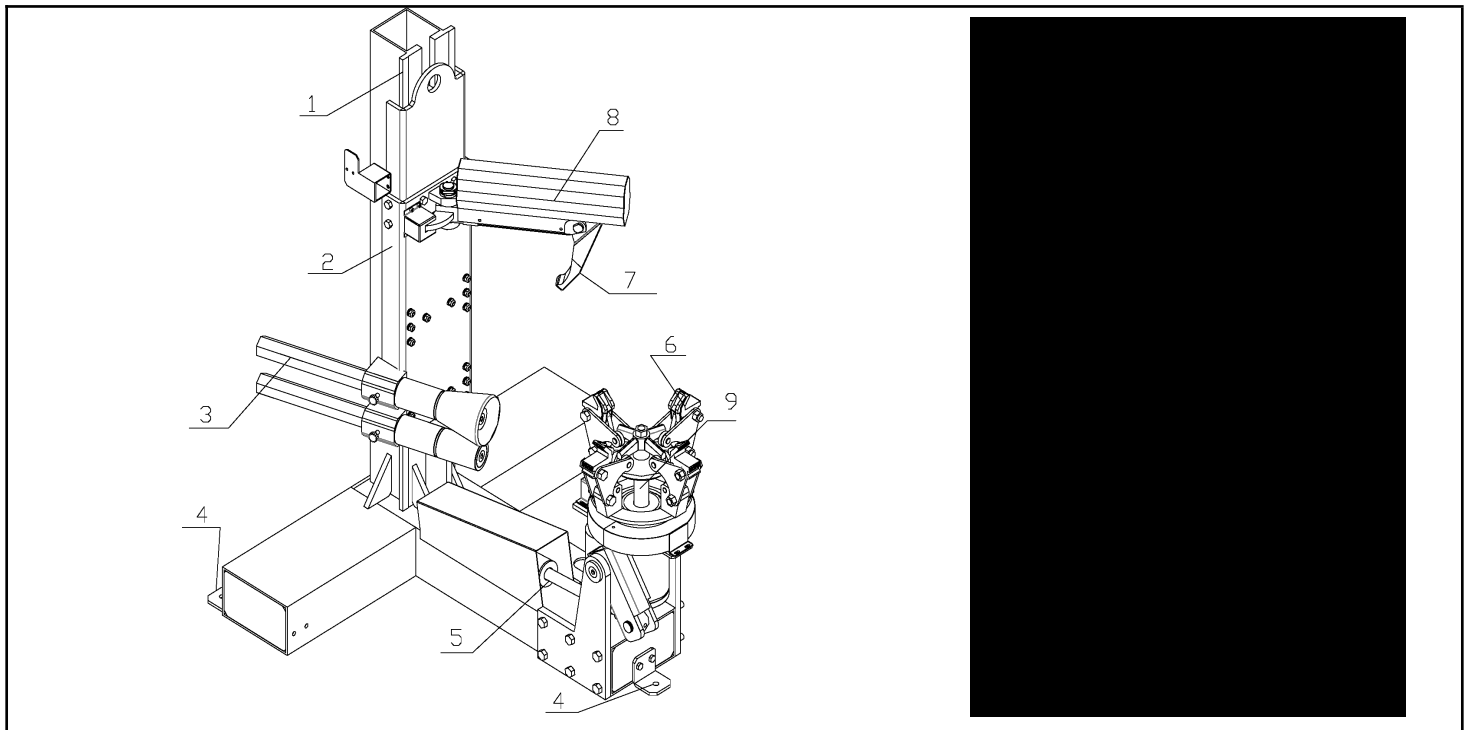

Figure 12
1. **Hook control lever (10, Figure 12):** when pushed upwards turns the hook down for disassembling the tire from the rim, when pulled down rotates the hook in the rest position;
2. **Column height control lever (11, Figure 12)** when pushed upwards the column and the support roller beam are raised, and when pulled downwards they are lowered.
3. **Chuck tilting lever (12, Figure 12)** when pushed upwards, the chuck is tilted down with its axle parallel to the ground in the “wheel loading” position. When pulled downwards, the chuck is tilted up in the “working position”, with the rim axle perpendicular to the ground.
4. **Chuck rotation control lever (13, Figure 12)** when pushed upwards, the self-centring chuck is rotated counter clockwise. When pulled downwards, the self-centring chuck is rotated clockwise.
5. **Chuck opening/closing control lever (14, Figure 12)** when pushed upwards, opens the arms of the self-centring chuck (locking). When pulled down, closes the arm of the self-centring chuck (un-locking).
- 2) If the chuck is not horizontal, push the chuck tilting lever (12, Figure 12) upward until the chuck is in the "wheel loading" position, until the spindle carrier arm horizontal to the ground.
- 3) If the chuck arms are in "locking position", pull the chunk arms control lever (14, Figure 12) downward until the arms of the chunk are closed in "unlocking position".